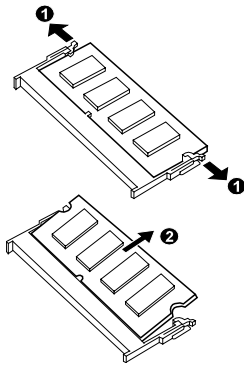

Figure 2-11
3. Pull the retaining clips outwards (❶) and remove the SO-DIMM (❷). (Figure 2-11)